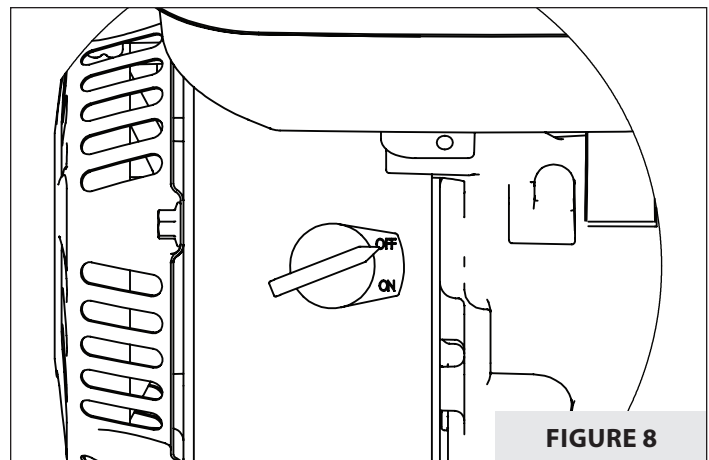

FIGURE 8
2. On manual-start models, turn the On/Off switch to the **OFF** position. On models with fixed throttle, move ON/OFF switch to **OFF** position. **SEE FIGURE 8.**